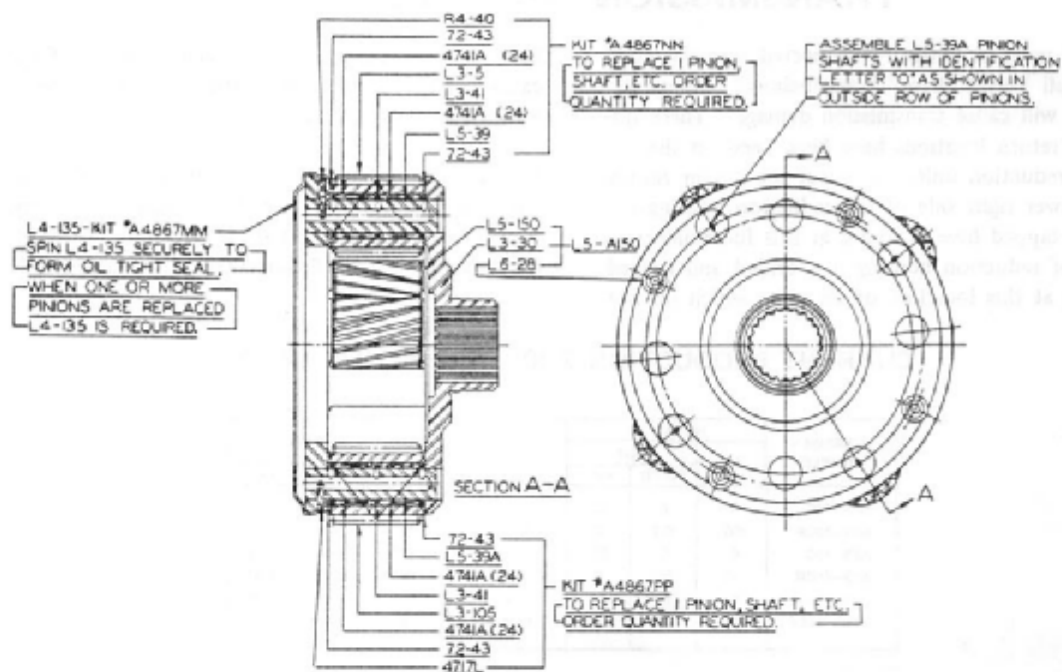

FIG. 12 L5-1A150 PLANETARY ASSEMBLY USED IN CR UNITS.
1. Slide the sun gear (7) splines into the reduction unit adapter (20) splines until the gear bottoms on the adapter shoulder.
2. Support the adapter and sun gear on the sun gear rear face and install a snap ring (21) in the sun gear groove.
3. Assemble the adapter front gasket (22) and the adapter with sun gear to the forward and reverse transmission rear face.
4. The two 7/16-14 x 1-3/4 hex head bolts (16) should be started in the case threads to insure adapter alignment.
5. Assemble six NEW 7/16-14 x 1 nylock bolts (17) and external tooth lockwashers (18) to retain the adapter. Remove the two 7/16 bolts, which were installed in step four after the nylock bolts have been properly torqued.
6. Install a thrust washer (6) on the sun gear rear face.
- CAUTION:** Two different planetary cage assemblies are used in 2.10:1 reduction units. Two 1/4 inch dimples on the rear face of the L5A-1A150 identifies this assembly, which must only be used in C units. The L5-1A150 used in CR units has no identification marks. See instruction sheets Fig. 12 and 13 on page 15
7. Rotate the proper planetary cage and gear assembly (5) to engage pinion gear teeth with sun gear teeth as the planetary assembly is assembled against the thrust washer on sun gear rear face.
9. Assemble the mainshaft (3) and a snap ring (2) into the ring gear (4).
11. Place the reduction housing (1) front face on a